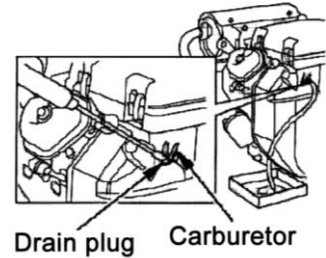

Fig.28
① Screw off the drain plug(Fig.28) and drain out fuel in the carburetor. Please drain the fuel to profitable container, screw down the drain bolt.
② Turn off the engine switch first, disconnect the deposit cup and empty it, Reinstall the deposit cup and screw down.